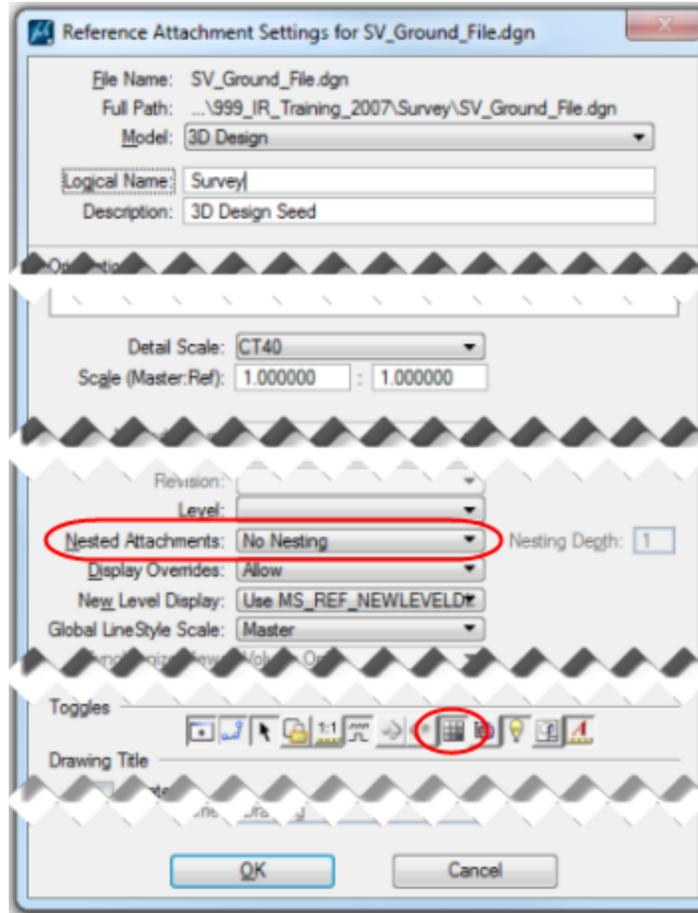

Figure 3 Attach Reference File
- I. Reference in the Survey file and the Highway design file if needed. For this lab we reference in the survey file only. In MicroStation click on **References icon**, click on **Tools > Attach...** Browse to the survey directory for your project and click on the survey dgn file. Click **open**. For this lab: In the survey folder select **SV_D1_0123_4567_GRN.dgn**. Select **no nesting** and click **off raster**, click **OK**. **Close** the References box, see Figure 3.